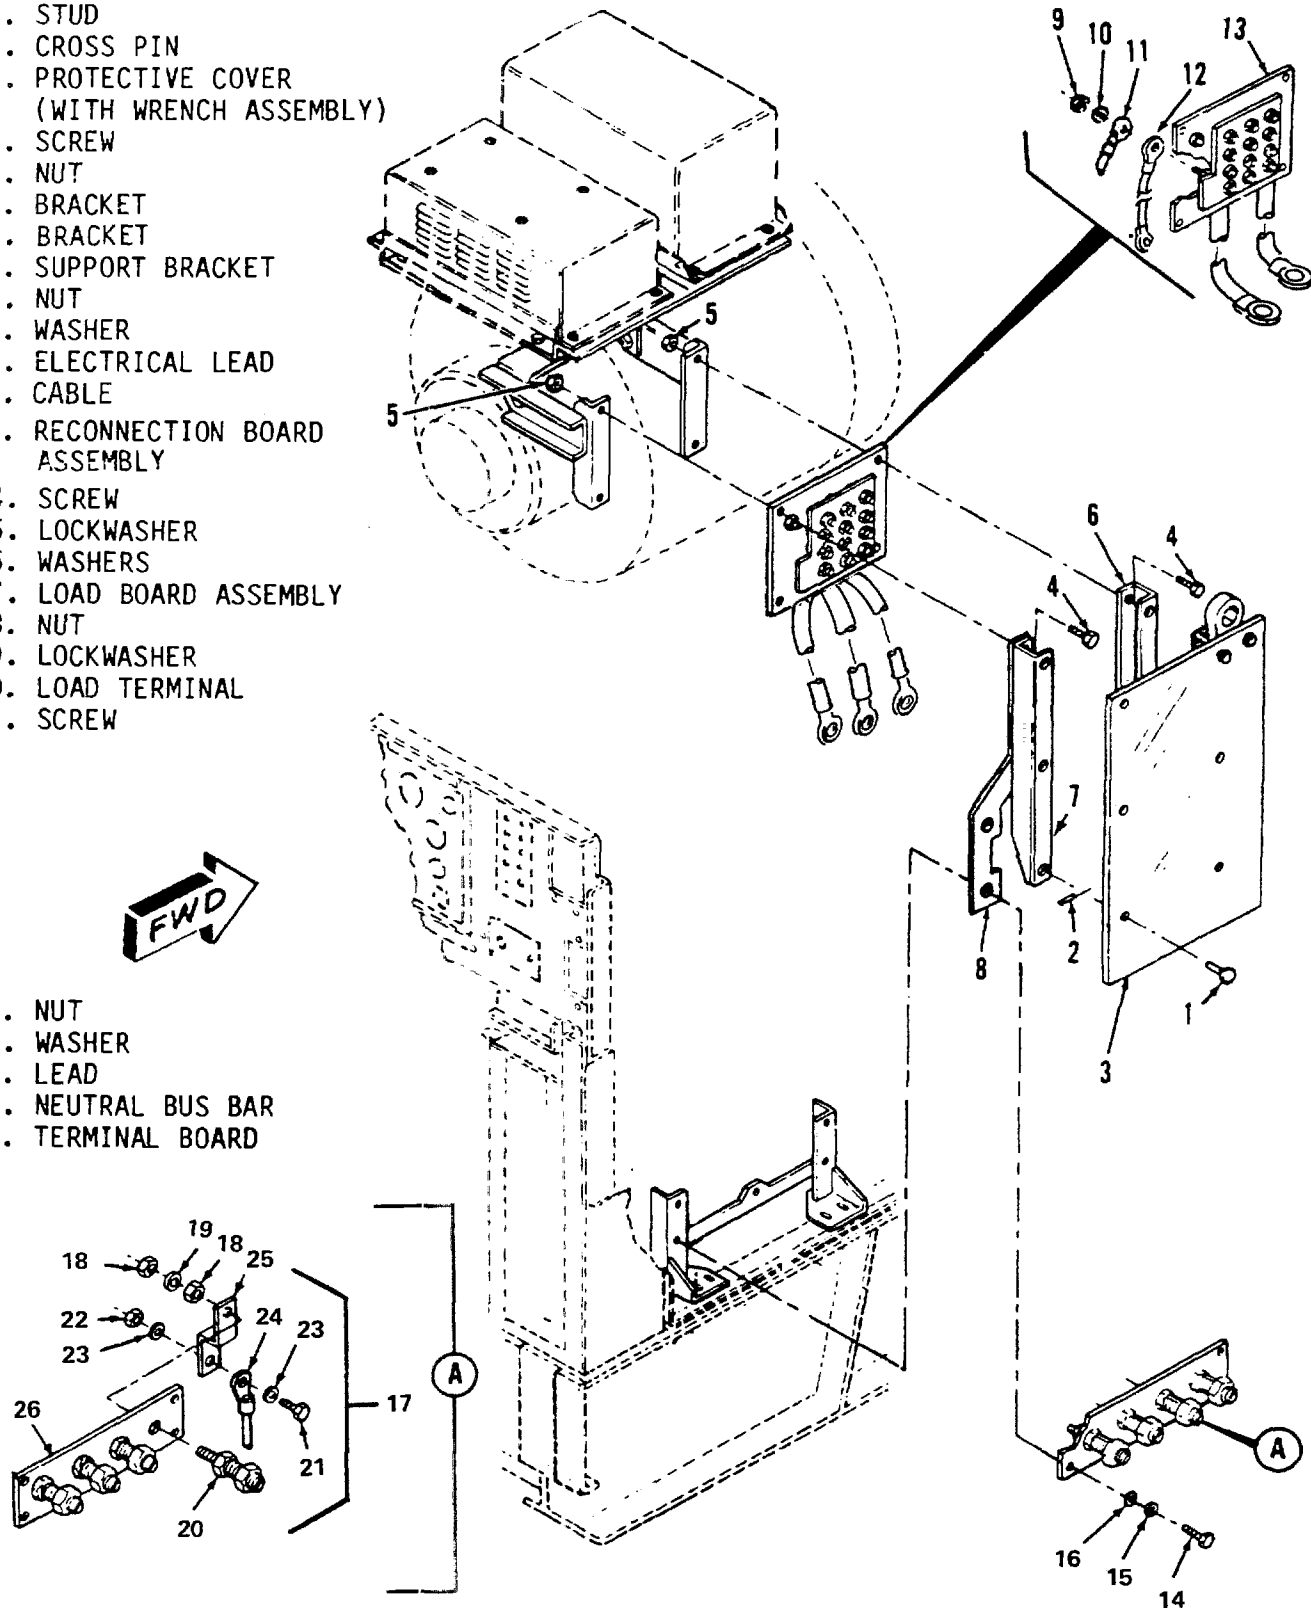

Figure 4-39. Reconnection Board Assembly and Load Board Assembly, Removal and Installation
b. Removal. Refer to figure 4-39 and remove the reconnection board as follows:
(1) Inspect threads for damage.
(2) Inspect terminal board and bus bars for cracks, warping, and burnt spots.
(3) Inspect for broken electrical leads caused by lockwashers cutting into the leads due to missing flat washers.
g. Reassembly. Refer to figure 4-39 and reassemble reconnection board assembly. Ensure studs are installed in proper numbering sequence.
h. Installation. Refer to figure 4-39 and install reconnection board assembly as follows:
(1) Connect electrical leads (11) and cables (12), washers (10), and nuts (9) to reconnection board assembly (13) studs.
(2) Position reconnection board assembly (13), support bracket (8), and brackets (7 and 6) into mounting position on generator, and secure with screws (4 and 14), nuts (5), lockwashers (15), and washers (16).
(3) Install protective cover (3) and secure by tightening studs. Do not overtighten.
(1) Place circuit breaker assembly (13) onto bracket (14) and install washers (9 and 12) lockwashers (8 and 11), and screws (7 and 10).
(2) Connect three cables to bottom circuit breaker connections with screws (4), washers (5), and locknuts (6).
(3) Connect three cables and two electrical leads to top circuit breaker connections with screws (1), lockwashers (2), and extenders (3).
(4) Install connector P41.
(5) Install convenience receptacle assembly (refer to paragraph 4-78h).
b. Removal and Disassembly. Refer to figure 4-39 and remove and disassemble load board assembly as follows:
(1) Remove protective cover (3) by loosening studs (1).